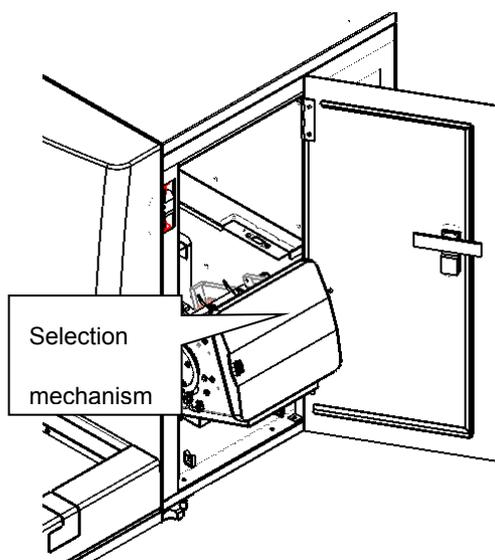

Figure 8-22
2. Reverse the selection mechanism to the right (as shown in Figure 8-22).
- 1) Reverse the test strip feeder to the right (Figure 8-22).